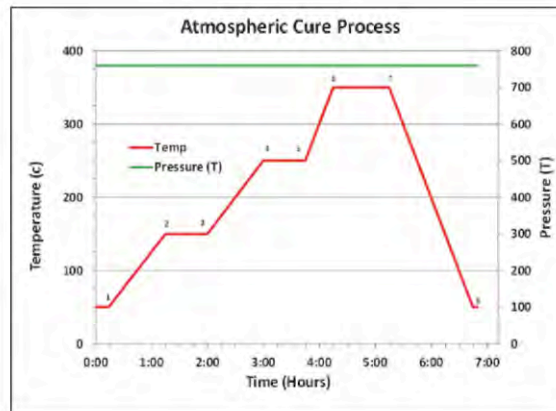

Figure 1: Atmospheric cure process graph.
- NMP solvent boils at 205°C in atmosphere. Some polymers start imidization around 205°C, hence it is difficult to avoid the formation of a skin on the top of the polymer before all the solvent is removed in an atmospheric pressure bake. At a reduced pressure, in the 50 Torr range, NMP boils at 120°C. Therefore, all the solvents can be safely removed before imidization initializes. If the polymer surface is imidized before all the inhibitors are removed, it may result in wrinkles, cracks, discoloration and outgassing during any subsequent process steps. (See figure 1 + 2)